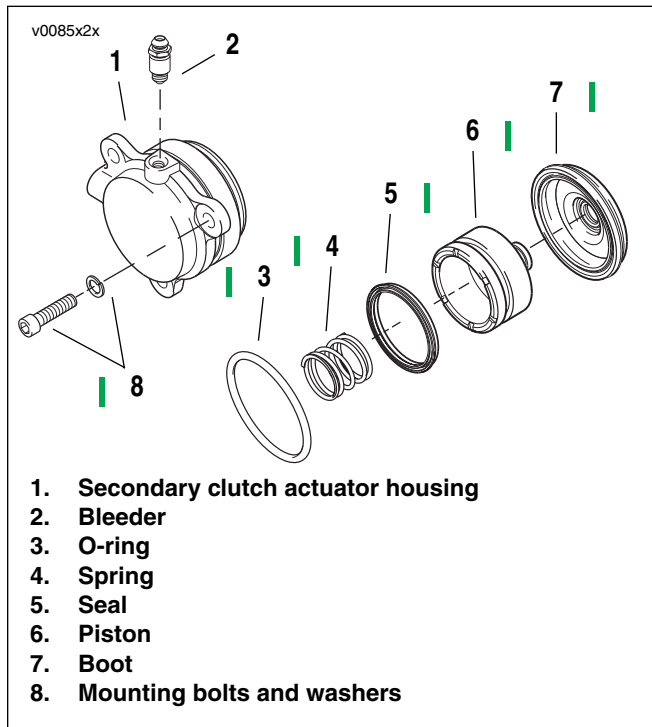

Figure 2-43. Secondary Clutch Actuator Components
1. See Figure 2-43. Remove O-ring (3) from bleeder (2).
2. Pull off boot (8), piston (7), seal (6), and spring (5) from housing (1). Slip O-ring (4) off housing.
1. See Figure 2-43. Coat cylinder bore, piston, O-ring, boot, and bleeder with lubricant from service kit.
2. Orient a **new** seal (6) with square split lip toward rider side of actuator and fit to piston (7).
4. Install a **new** O-ring (4) into groove at base of secondary clutch actuator housing (1).
5. Fit boot (8) to piston (7) and push edge of boot over machined lip around housing (1).
6. Fit new O-ring (3) to bleeder (2) and loosely install into housing.